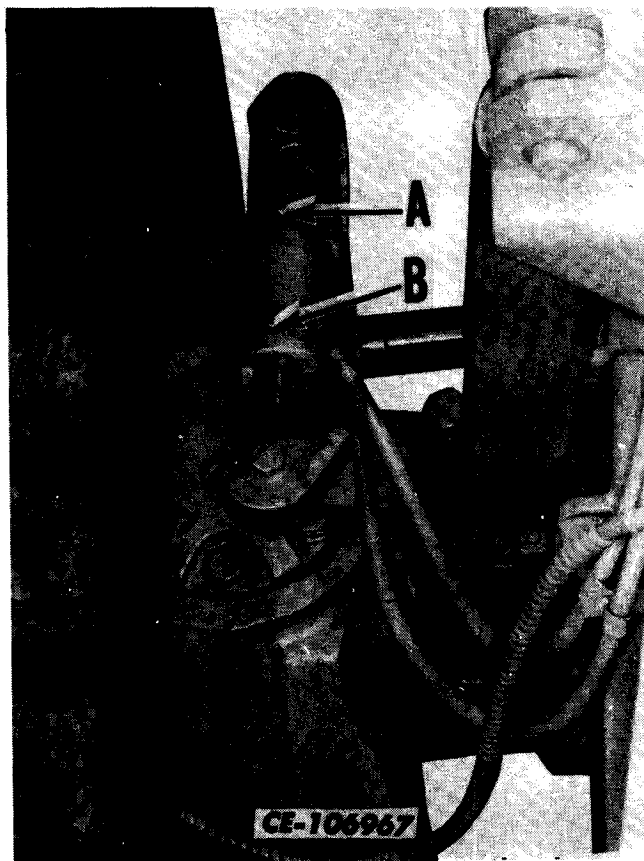

Fig. 43. Servo Cylinder
4. Loosen bleeder valve (A, Fig. 43) on the servo cylinder. Turn the steering wheel to the right 6 to 12 turns until all air has escaped. Tighten the valve while still turning the steering wheel to the right.
6. Loosen bleeder valve (B, Fig. 43) on the servo cylinder. Turn the steering wheel to the left from 6 to 12 turns until all air has escaped. Tighten the bleeder valve while still turning the wheel to the left.